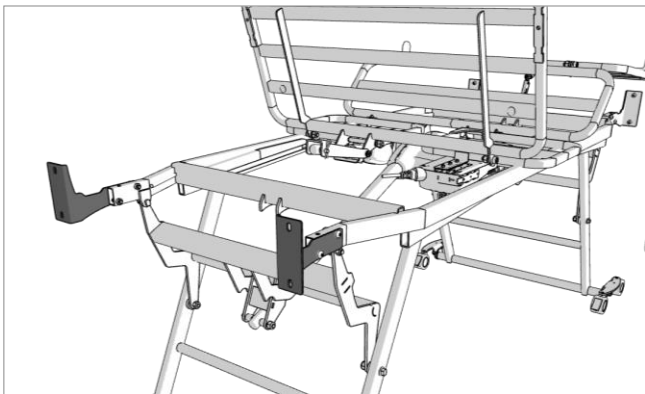
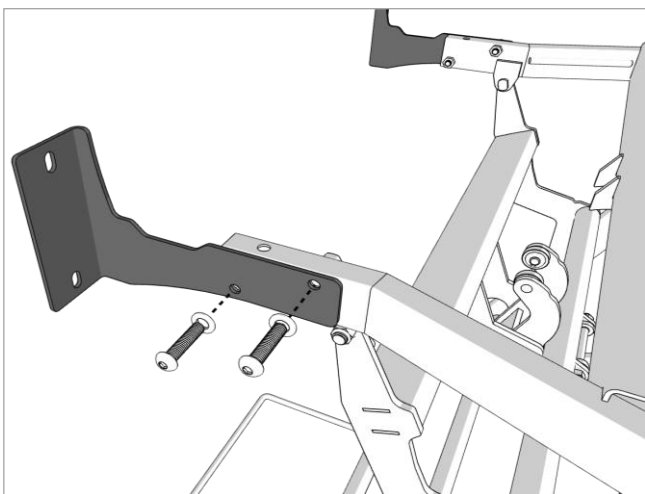

Figure 8.5
Figure 8.6
4. Using four M8 x 35 bolts and four M8 Washers with the 5mm Allen Key attach the left and right fixing brackets to the bed frame, and tighten as shown in Figure 8.5 and Figure 8.6.